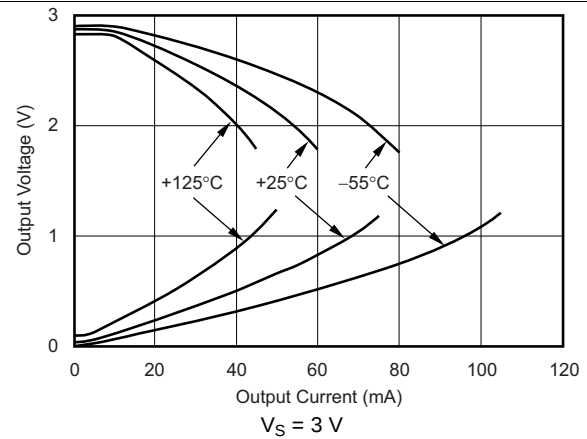
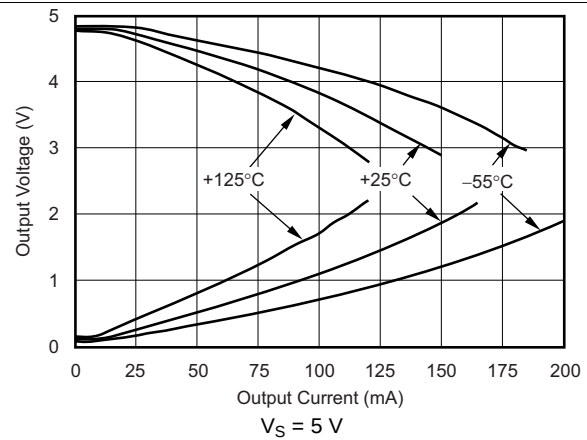

Figure 20. Output Voltage Swing vs Output Current
Figure 22. Output Voltage Swing vs Output Current
(1) See typical characteristic curves, *Output Voltage Swing vs Output Current* (Figure 20 and Figure 22).
(2) Specified by design.
A class AB output stage with common-source transistors achieves rail-to-rail output. For high-impedance loads ( $> 200 \Omega$ ), the output voltage swing is typically 100 mV from the supply rails. With 10- $\Omega$  loads, a useful output swing is achieved while maintaining high open-loop gain. See the typical characteristic curves, *Output Voltage Swing vs Output Current* (Figure 20 and Figure 22).
The OPAx354 output stage supplies a continuous output current of  $\pm 100$  mA and yet provide approximately 2.7 V of output swing on a 5-V supply, as shown in Figure 30. For maximum reliability, TI does not recommend running a continuous DC current in excess of  $\pm 100$  mA. See the typical characteristic curves, *Output Voltage Swing vs Output Current* (Figure 20 and Figure 22). For supplying continuous output currents greater than  $\pm 100$  mA, the OPAx354 may be operated in parallel, as shown in Figure 31.